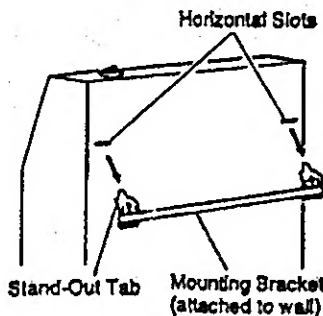

Figure 11-mounting heater onto mounting bracket
1. Locate two horizontal slots on back panel of heater (see Figure 11).